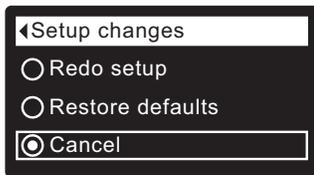

FIG. 33
1. From any of the rolling status screens, press the SELECT (O) button to display the **Main menu**.
3. Press the SELECT (O) button to display the Advanced settings menu.
5. Press the SELECT (O) button to display the Troubleshooting menu.
7. Press the SELECT (O) button to display the Setup changes menu (See Figure 33).
8. Press the RIGHT (▶) button. The flashing padlock icon will disappear, as shown in Figure 33.
9. Press the SELECT (O) button.